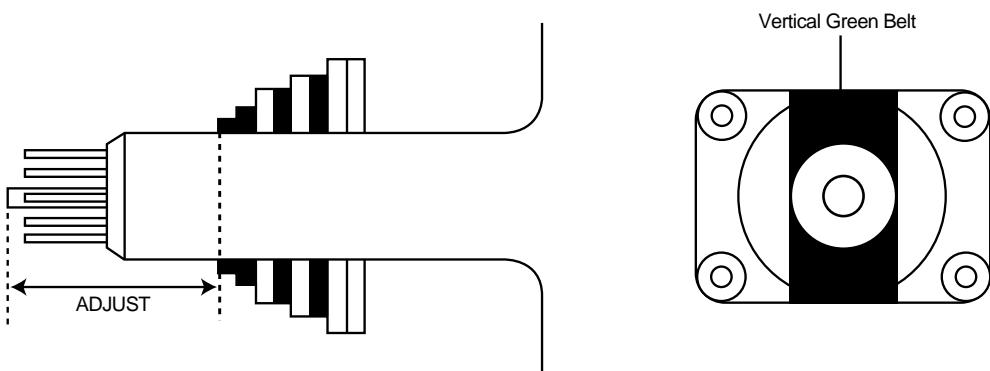

FIG. B-2 CENTER CONVERGENCE ADJUSTMENT
7. Loosen the clamp screw holding the yoke. Slide the yoke backward or forward to produce a vertical green belt. (Fig. B-2)